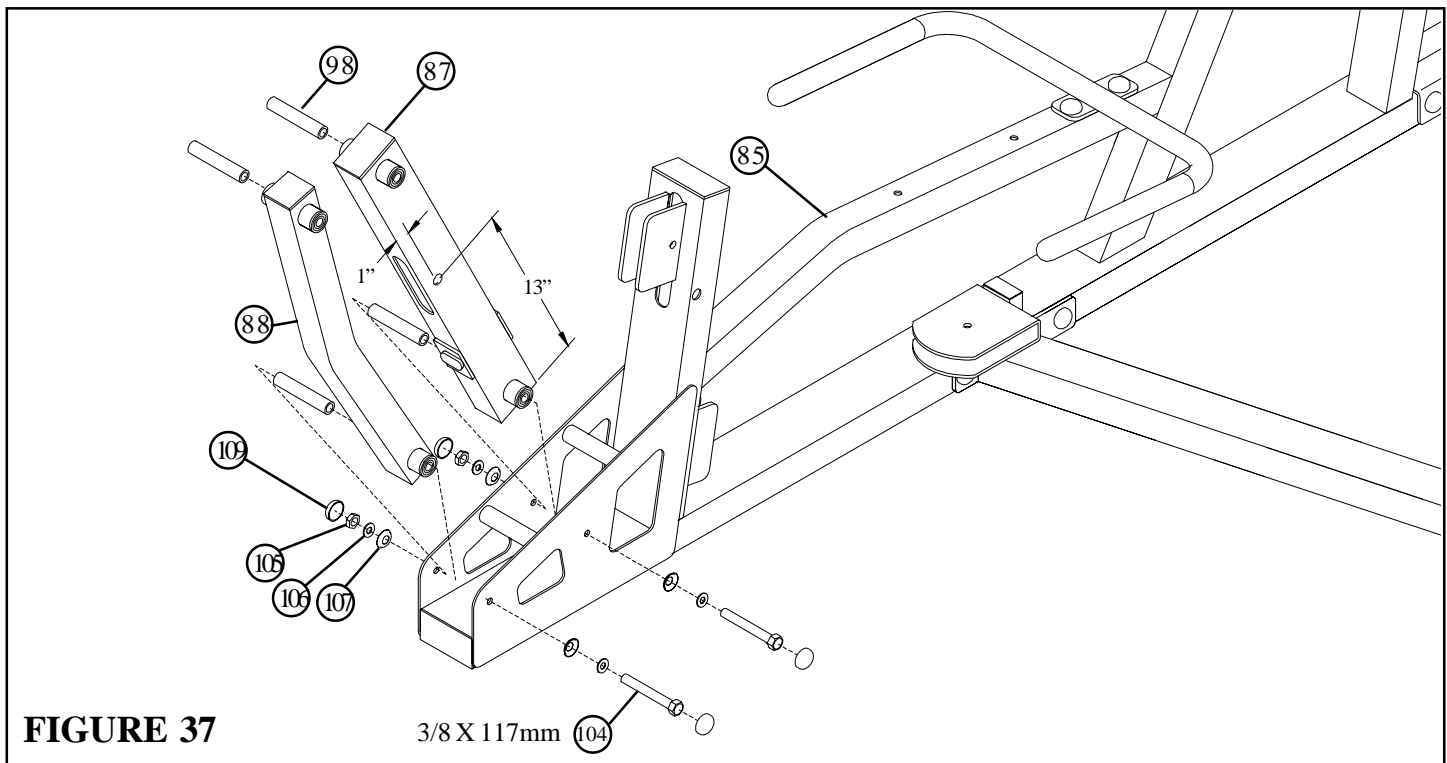

FIGURE 37
- Assemble four 3/4 X 4" PIVOT SHAFTS (98) to the MAIN & SECONDARY PIVOT ARMS (87 & 88) as shown in FIGURE 37.
- **SECURELY** assemble the MAIN & SECONDARY PIVOT ARMS (87 & 88) to the LEG PRESS FRAME (85) using four RH CAPS (109), two 3/8 X 117mm BOLTS (104), four 3/8" SAE WASHERS (106), four 3/8" RH WASHERS (107) and two 3/8" LOW HEIGHT LOCK NUTS (105) as shown in FIGURE 37. (**NOTE: Make sure the MAIN PIVOT ARM is assembled as shown.**)